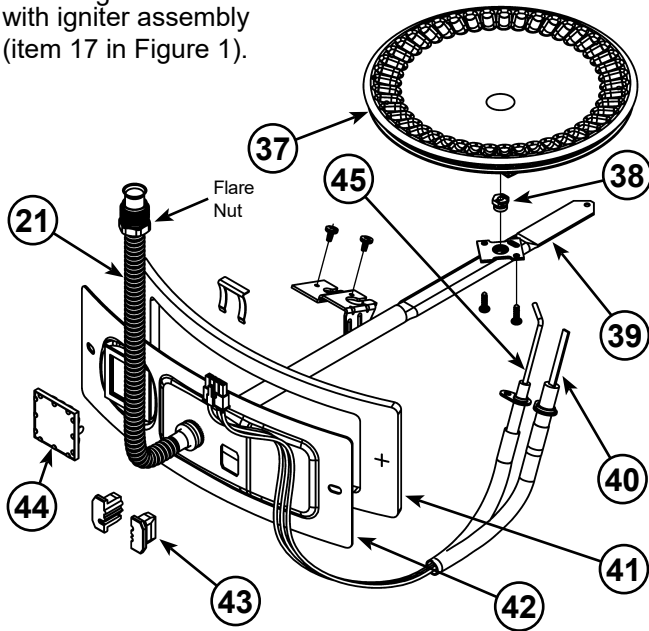
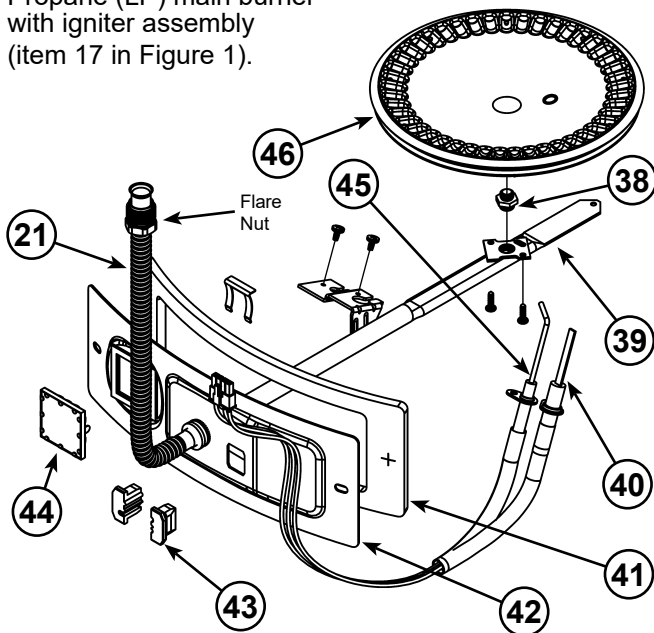
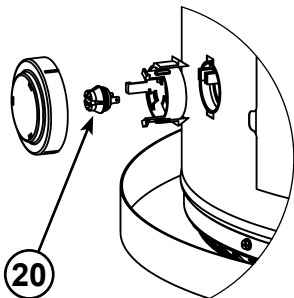
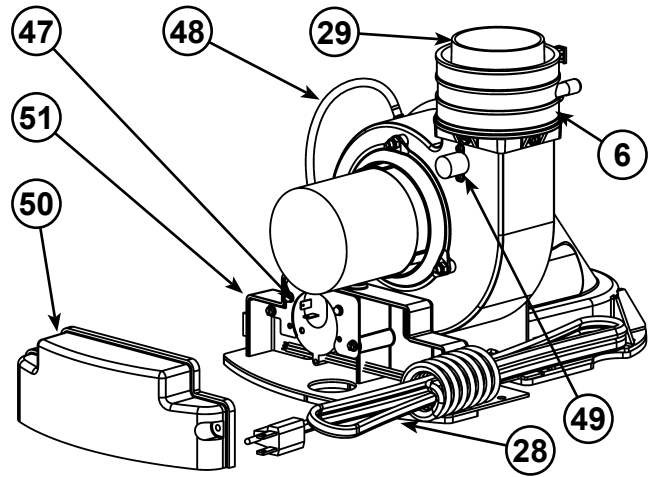

Figure 3.
Figure 4.
Figure 5.
Figure 6.
| 1 Vent Termination Elbow with Rodent Screen | 17 Manifold Door Assembly (behind outer door) (see Figure 3 (NG) or Figure 4 (LP)) | 36 *Thermal Expansion Tank (required for all closed systems) |
| 2 *Vent Pipe | 18 *Floor Drain | 37 Aluminum Burner (see Figure 3) |
| 3 *Vent Pipe Coupling (if required) | 19 *Metal Drain Pan | 38 Gas Orifice (see Figure 3) |
| 4 CPVC Vent Pipe (5 ft. supplied) | 20 Flammable Vapor Sensor (under cover) (see Figure 5) | 39 Gas Manifold (see Figure 3) |
| 5 *CPVC Vent Pipe Elbow (long radius) | 21 Flexible Manifold Tube (see Figure 3) | 40 Hot-Surface Igniter (see Figure 3) |
| 6 Gear Clamp (see Figure 6) | 22 *Sediment Trap | 41 Manifold Door Gasket (see Figure 3) |
| 7 T&P Valve | 23 *Ground Joint Union (gas connection) | 42 Manifold Door (see Figure 3) |
| 8 **Combo Heating System Supply Outlet (Optional) | 24 *Main Manual Gas Shut-off Valve | 43 Two Piece Grommet With Clip (see Figure 3) |
| 9 Cold-Water Inlet Nipple/Diptube | 25 *Gas Supply* | 44 Viewport (see Figure 3) |
| 10 * Discharge Pipe | 26 Baffle Assembly | 45 Flame Sensor Rod (see Figure 3) |
| 11 Gas Control Valve/Thermostat (Honeywell) | 27 Rating Plate | 46 Stainless Steel Burner (see Figure 4) |
| 12 Gas Valve Electronic Control Module And Cover (Honeywell) | 28 Blower with Power Cord (see Figure 6) | 47 Air Switch (inside box) (see Figure 6) |
| 13 **Combo Heating System Return Inlet (Optional) | 29 *Rubber Coupling (see Figure 6) | 48 Air Tubing (see Figure 6) |
| 14 ***Control Harness | 30 *Inlet Water Shut-off Valve | 49 Blower High Limit Switch (see Figure 6) |
| 15 Drain Valve | 31 *Union (water connection) | 50 Junction Box Cover (see Figure 6) |
| 16 Outer Gas Door | 32 Hot-Water Outlet Nipple | 51 Junction Box (see Figure 6) |
This device is located on the blower (see Figure 6, item 49) and limits the maximum temperature of the blower. If the blower temperature rises above the temperature setting, the switch opens causing the heater to shut down. The switch will auto reset once the temperature drops sufficiently.
This device, located in the junction box, monitors the air pressure produced by the blower. In the event that the exhaust venting becomes blocked or sufficiently restricted, the switch will shut the heater down (see Figure 6, item 47). If the water heater has not gone into a soft lockout condition, the heater will restart after the blockage is removed (see “Resetting The Heater Control”).